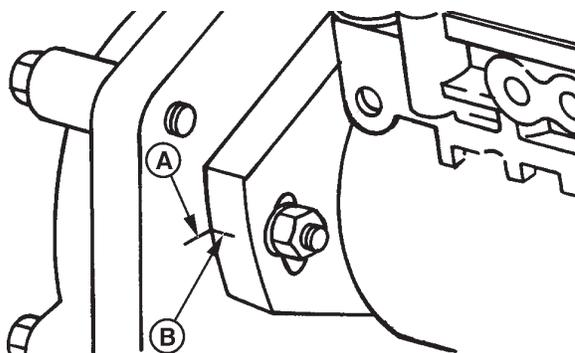

Figure 17. Reproduced by permission of Deere & Company, c2000. Deere & Company. All rights reserved.
9. Check to make sure that timing marks on back side of front plate (Figure 17-A) and injection pump flange (Figure 17-B) are present and properly aligned. This assures that repaired or replacement pump can be properly timed to engine when installed.
IMPORTANT: Injection pump mounting flange timing mark (Figure 17-A) and front plate timing mark (Figure 17-B) presence and alignment **MUST** be verified before removing pumps from engine. **DO NOT** reference internal timing marks (on pump cam ring and governor weight retainer). If timing mark is not clearly visible on front plate, scribe a visible reference mark as accurately as possible in-line with mark on pump flange.